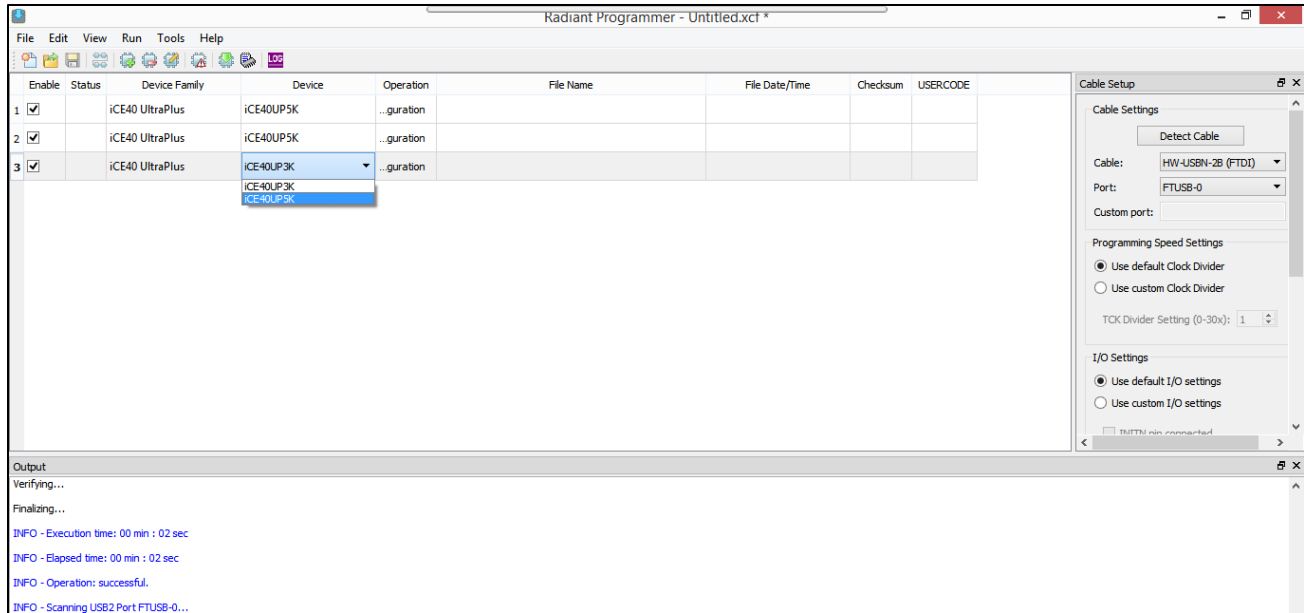

Figure 4.4. Radiant Programmer – iCE40 UltraPlus Device Selection
7. Set **Device** to **iCE40UP5K** for all three cases as shown in Figure 4.4.